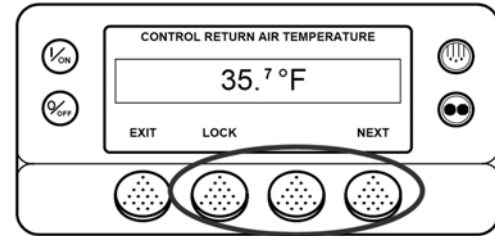

Figure 55: NEXT, BACK, LOCK Keys
3. Press the **BACK** or **NEXT** soft keys to scroll through the sensor screens. Pressing the **LOCK** key will lock the current sensor on the display. (Figure 55)